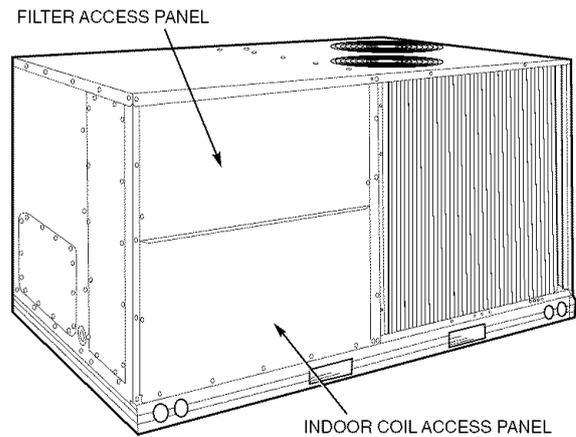

Fig. 26 — Typical Access Panel Locations
1. To remove the existing unit filter access panel, raise the panel and swing the bottom outward. The panel is now disengaged from the track and can be removed. See Fig. 26.